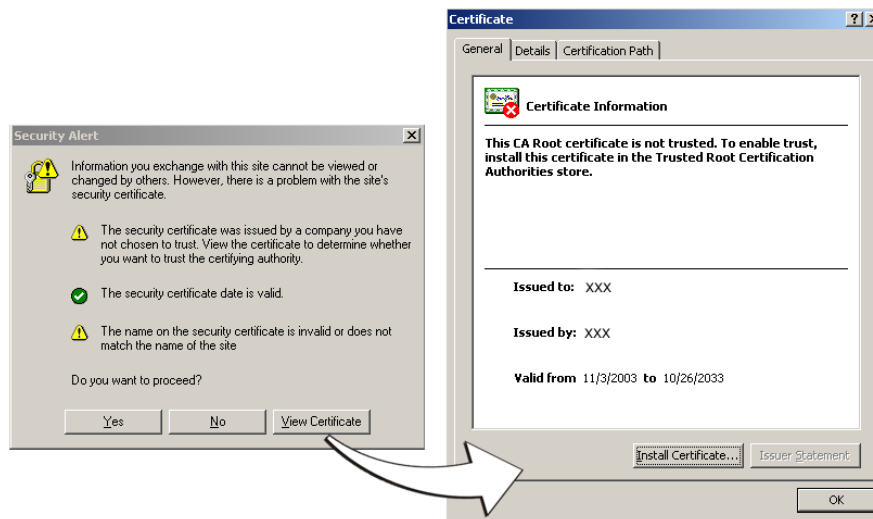

FIG. 46 Security Alert and Certificate popups
3. The user is then presented with a Security Alert popup window and Certificate information (FIG. 46).
- The date period given to the certificate has expired. CA-approved certificates typically come with a 2 year window of validity. Self generate certificates come defaulted with a 30 year window of validity (see FIG. 46).